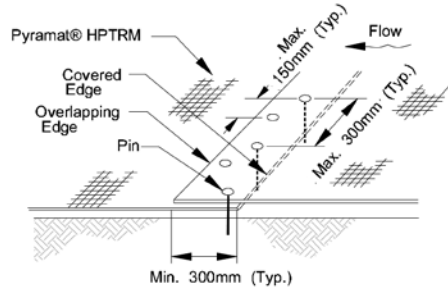

FIGURE 5: PYRAMAT® HPTRM OVERLAP AT ROLL END DETAIL
- b: Roll end overlap: 300mm minimum overlap with upslope mat on top. Secure with two rows of ground pinning devices staggered 300mm apart on 300mm centers (see Figure 5)